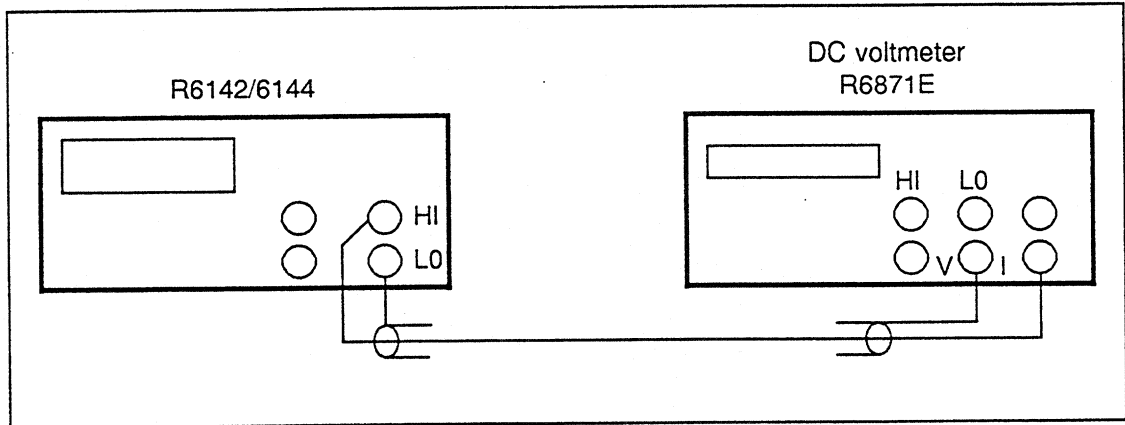

Figure 4-8 Cable Connection for Current Limiter Test
- ① Connect the R6142/6144 to the R6871E as shown in Figure 4-8.